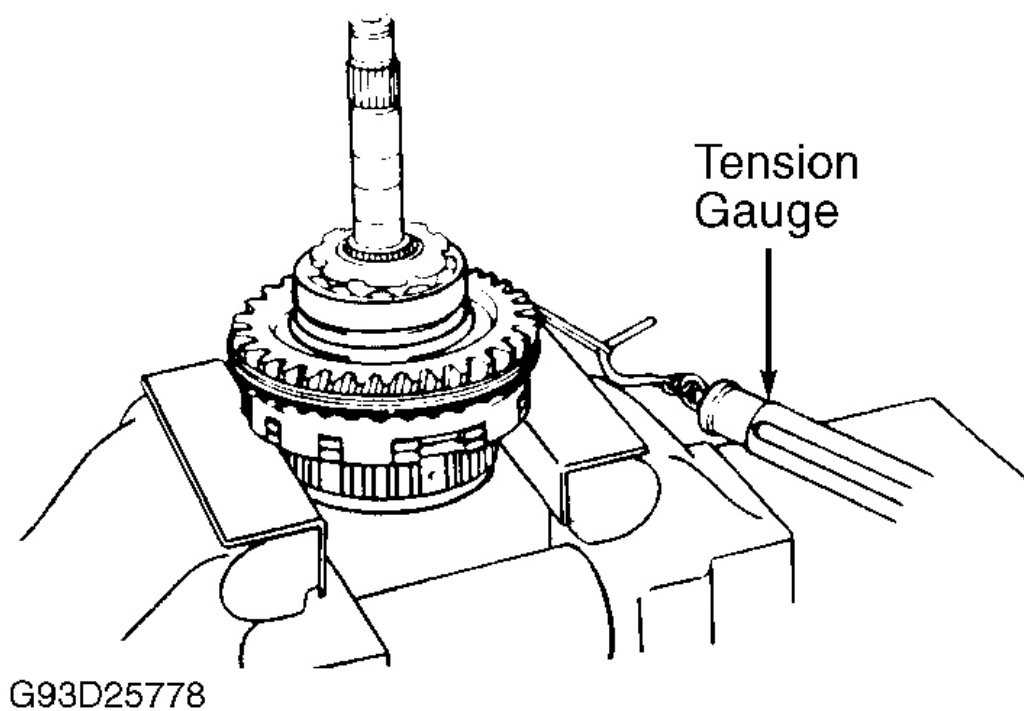

Fig. 54: Checking Counter Drive Gear Preload
2. Check counter drive gear preload. Hold overdrive planetary gear in a soft-jawed vise. DO NOT let counter drive gear touch the vise. Using a spring gauge, measure preload. See **Fig. 54** . Turn counter drive gear right and left several times before measuring preload. Starting preload should be 2.1-3.4 lbs. (9.2-
5. Place NEW locking washer and adjusting nut on intermediate shaft. Adjust preload of counter drive gear. Holding shaft in a soft-jawed vise and using a tension gauge and lock nut wrench on adjusting nut, tighten adjusting nut. See **Fig. 54** .